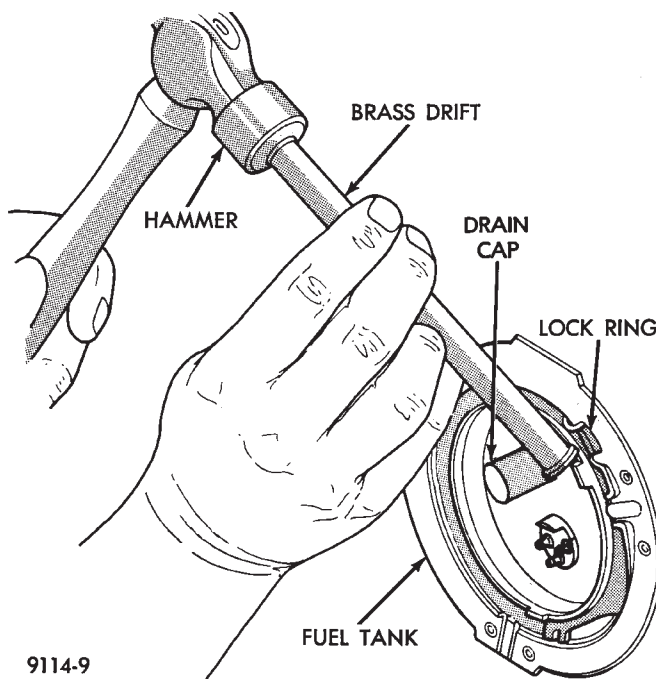

Fig. 5 Servicing Sending Unit
- (1) Wipe seal area of tank clean and place a new O-ring seal in position.
- (3) Place sending unit in tank. Position lock ring in place. Using a brass drift and hammer, tap ring in a clockwise direction (Fig. 5).
- (4) Install tank.